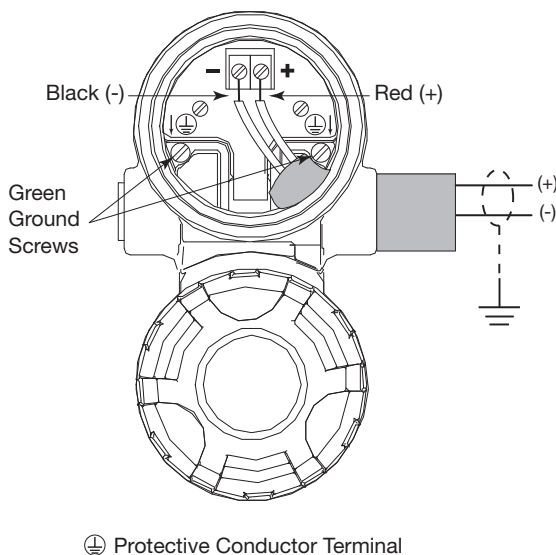

Figure 1
3. Connect an earth ground to the nearest green ground screw. See Figure 1. Use a minimum 18 AWG rated up to 85° C.